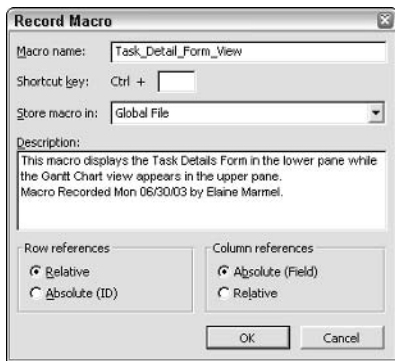

Figure 24-2: The Record Macro dialog box.
1. Choose Tools⇨Macro⇨Record New Macro to open the Record Macro dialog box, as shown in Figure 24-2.